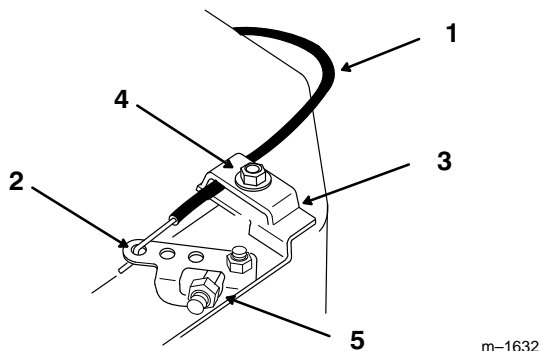

Figure 5
3. Hook wire Z-bend into last hole of governor arm (Fig. 5).
4. Loosen cable clamp screw allowing cable installation, but do not tighten (Fig. 5).
5. Push firmly on engine speed control cable until governor arm contacts stop and tighten cable clamp screw (Fig. 5).
3. Hook wire Z-bend into hole of choke lever (Fig. 5).